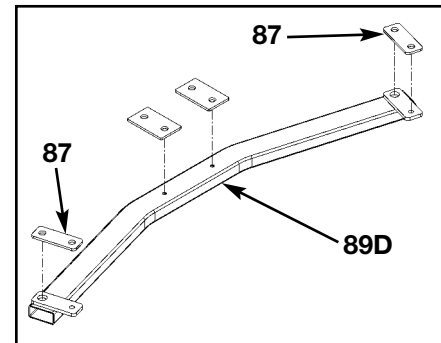

Figure 2
- B. Lay one of the stabilizers (#89D) so that the bottom side is facing up. See Figure 2.
- C. Remove the backing from two of the foot pads and install foot pads 2.00 x 5.25 (#87) as shown in Figure 2.
- C. While one person is holding the FT 360 in a tipped position, remove the backing from two of the foot pads and install foot pads 3.00 x 5.00 (#88) onto frame as shown in Figure 2 and then carefully lower FT 360.